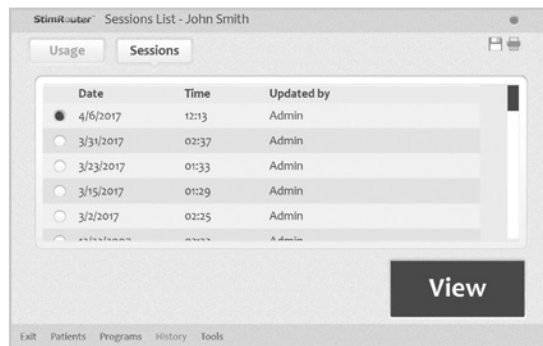

Figure 9-8. Viewing a session.
2. Press “History” on the Menu Bar and then press the Sessions Tab, select a session to view, and then press “View” button. See Figure 9-8.